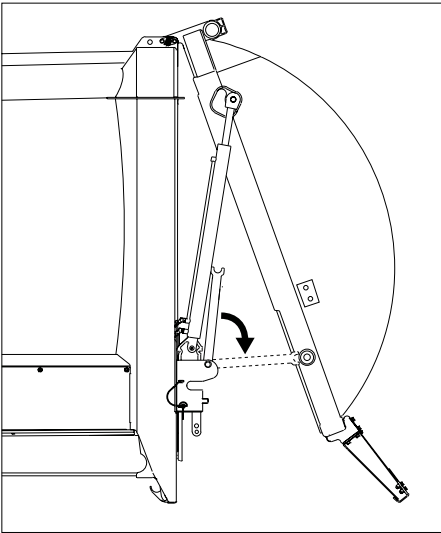

Figure 8. Putting the tailgate safety prop in its set position
7. Set the safety prop (see Figure 8. “Putting the tailgate safety prop in its set position”).